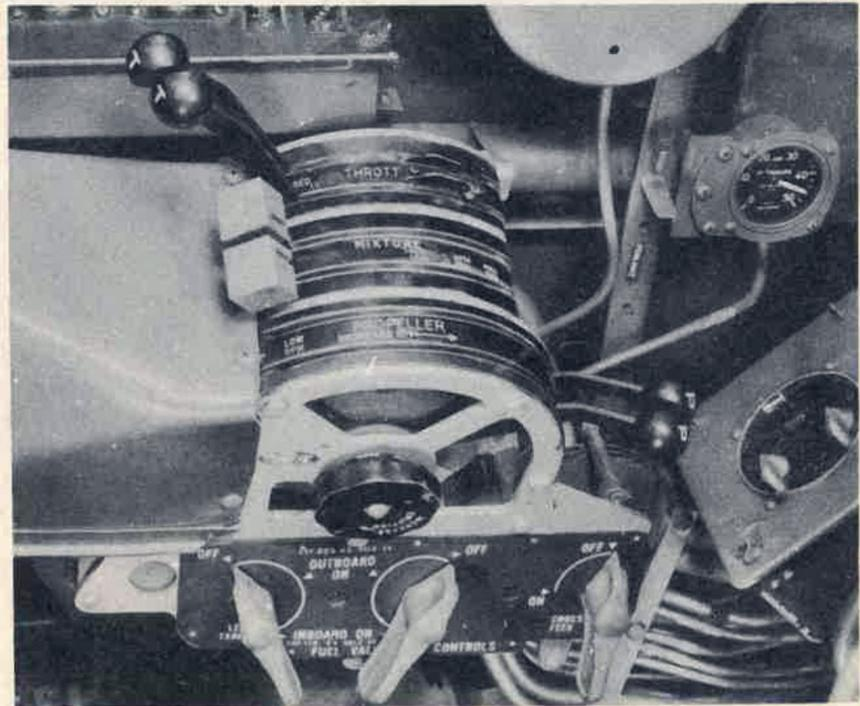

Figure 13 - Throttle Quadrant
(1) Mixture controls are on throttle quadrant to left of pilot's seat. (Fig. 13.)